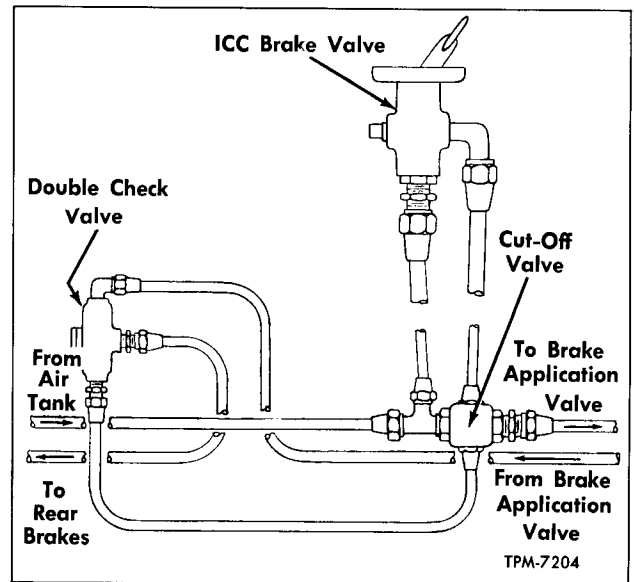

Figure 24—Auxiliary Brake Control Installation
I.C.C. (Interstate Commerce Commission) brake valve, along with an air pressure cut-off valve and a double check valve (fig. 24) are installed as special equipment on some vehicles. The I.C.C. valve is provided as an emergency method for applying the air brakes on rear axle. Valve is mounted at right side of driver. Valve control lever should remain in "OFF" position at all times during normal operation. When lever is moved to "ON" position, full air pressure in system is applied to brakes on rear axle only.